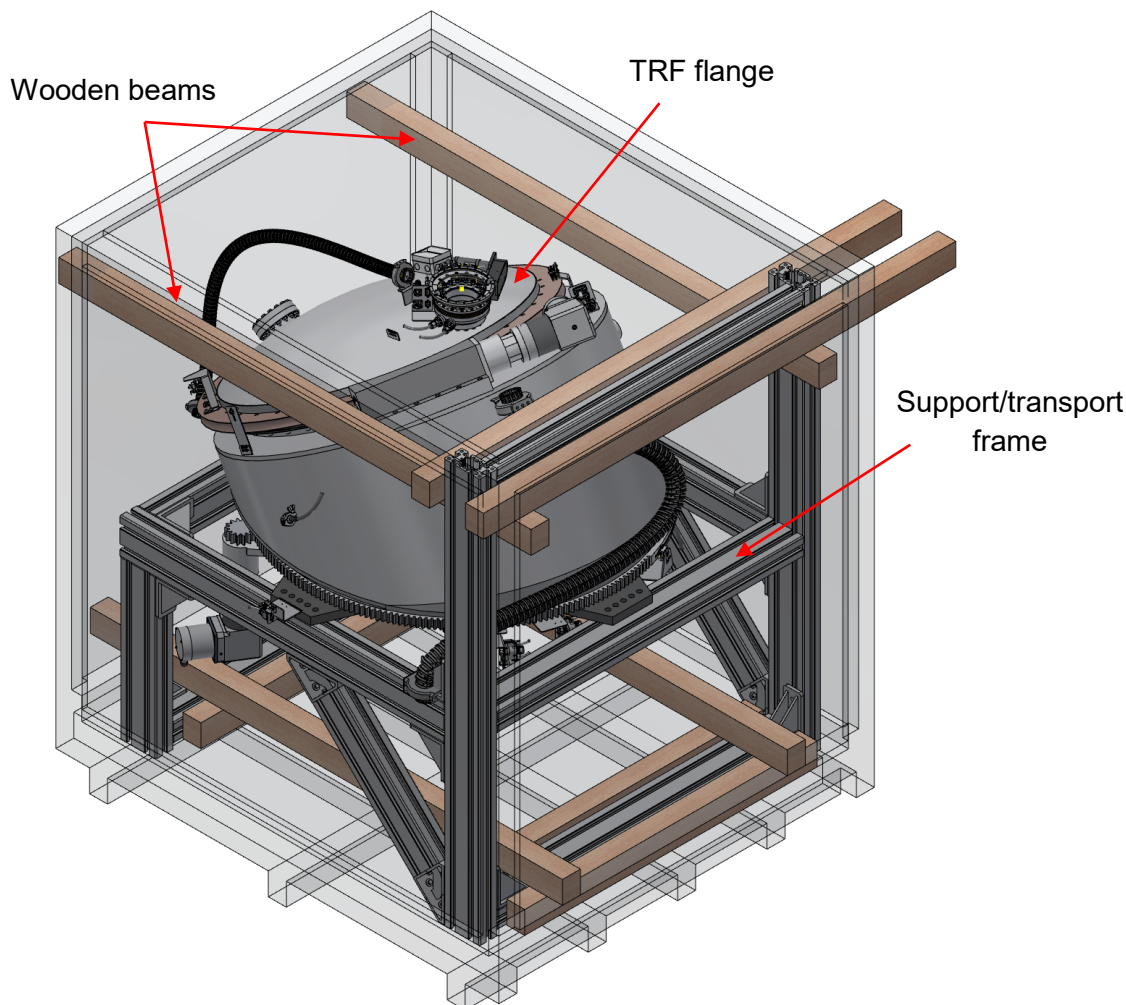

Figure 14: Triple rotation flange in transport crate.
1. Figure 14 shows the TRF in its transport crate. The flange is attached to a support frame, which is fixed to the crate by wooden beams.